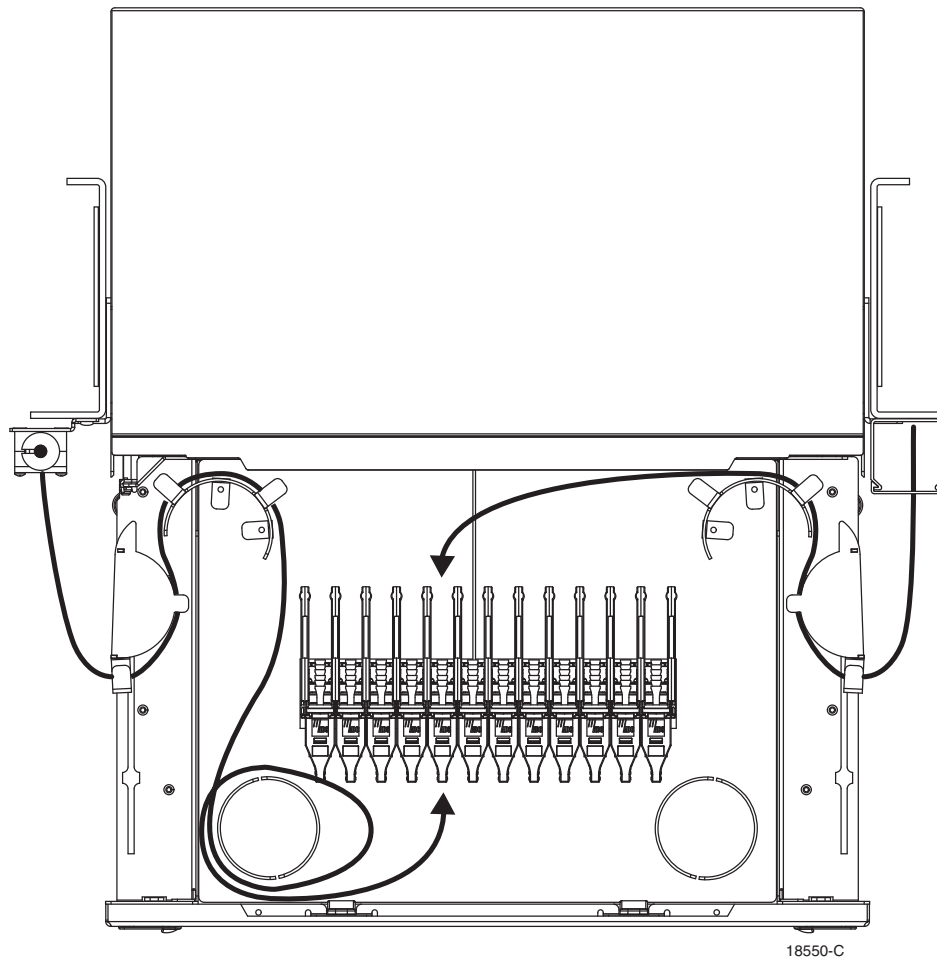

Figure 14. Cable Routing for 72-Position Termination Tray
5. Route the cable within the tray as shown in Figure 14. Note that there are different routings for cables being terminated at the front and rear of the adapters packs.